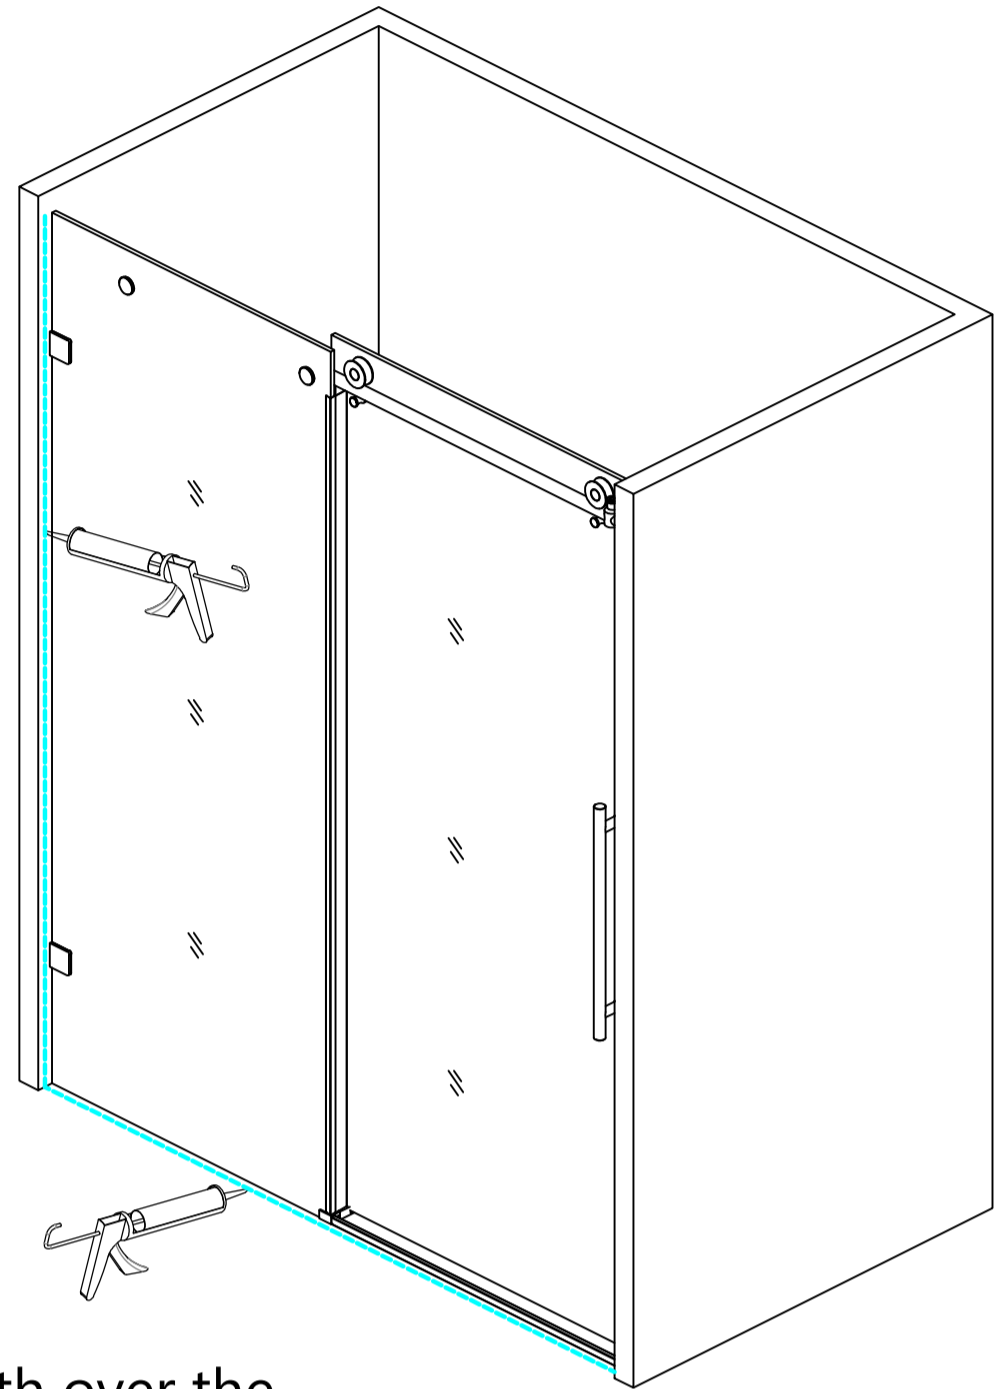

**Fig 17b**
2、 Loosen the screw on the left **Door Stoppers (K)**, Gently open the **Door Glass (D)** and adjust the **Handle(E)** to  $[1 \frac{9}{16}]$  inches from the edge of the **Stationary Glass (N)** or adjust the **Door Glass (D)** to  $[1 \frac{9}{16}]$  inches from the finished wall. Move the left **Door Stoppers (K)** to the roller and tighten the screw.**(Fig 17b)**
3、 After locking, open and close the **Door Glass (D)** gently to ensure that the **Door Glass (D)** can be sealed with the wall when closing the door, the **Door Glass (D)** will not hit the wall when opening the **Door Glass (D)**, and the handle will not touch the **Stationary Glass (N)**.